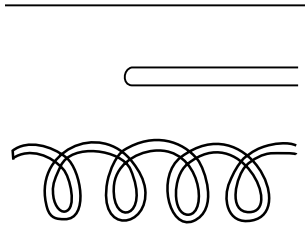

Fig.19.8: Wire wound on a cylindrical insulator
2. A certain length ( $\ell$ ) of wire, folded into two parallel, adjacent strands of length  $\ell/2$ , is wound on to a cylindrical insulator to form a type of wire-wound non-inductive resistor (Fig.19.8). Why is this configuration called non-inductive?